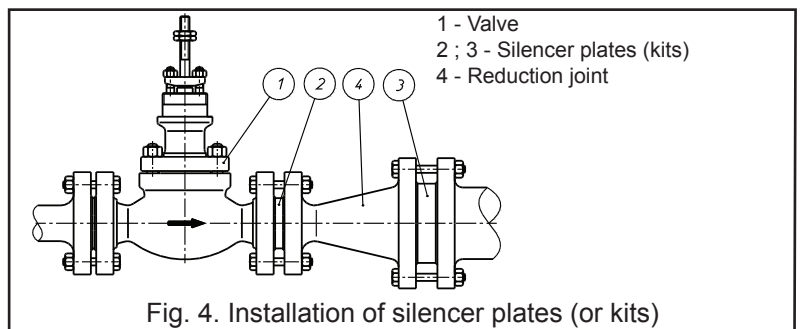

Fig. 4. Installation of silencer plates (or kits)
- reduction ends (diffusers) - (Fig.4).